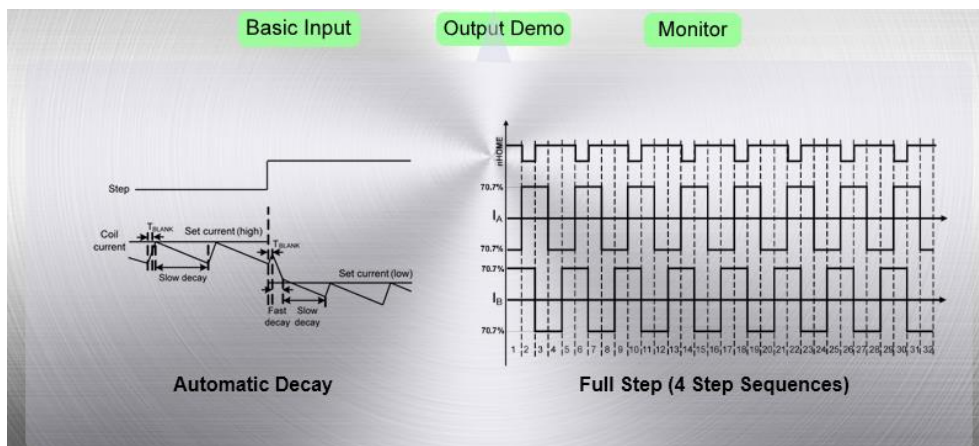

Figure 4: Output Demo Page
- Click the “Output Demo” button. Figure 4 shows the screen that should be displayed, which diagrammatically displays the winding currents for the selected decay and step modes.